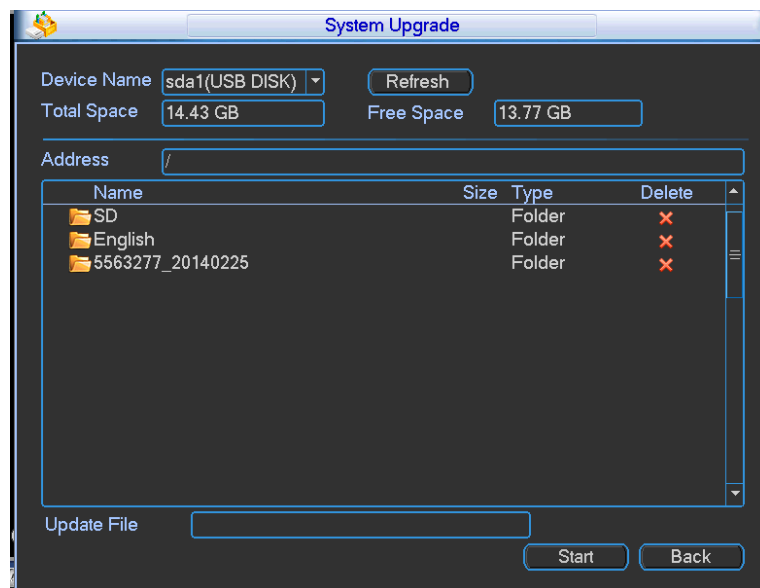

Figure 4-17
- Start: Please insert the USB device that have the update file to the device and then click the Start button to begin the update. See Figure 4-17.